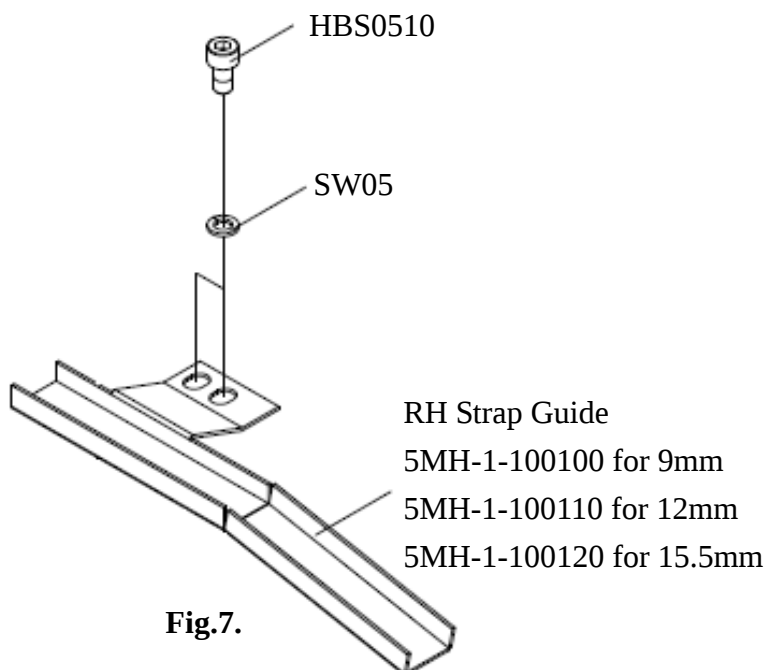

Fig.7.
- Change RH Strap Guide (5MH-1-100100 / 5MH-1-100110 / 5MH-1-100120) according to the strap width. (refer to fig. 7.)